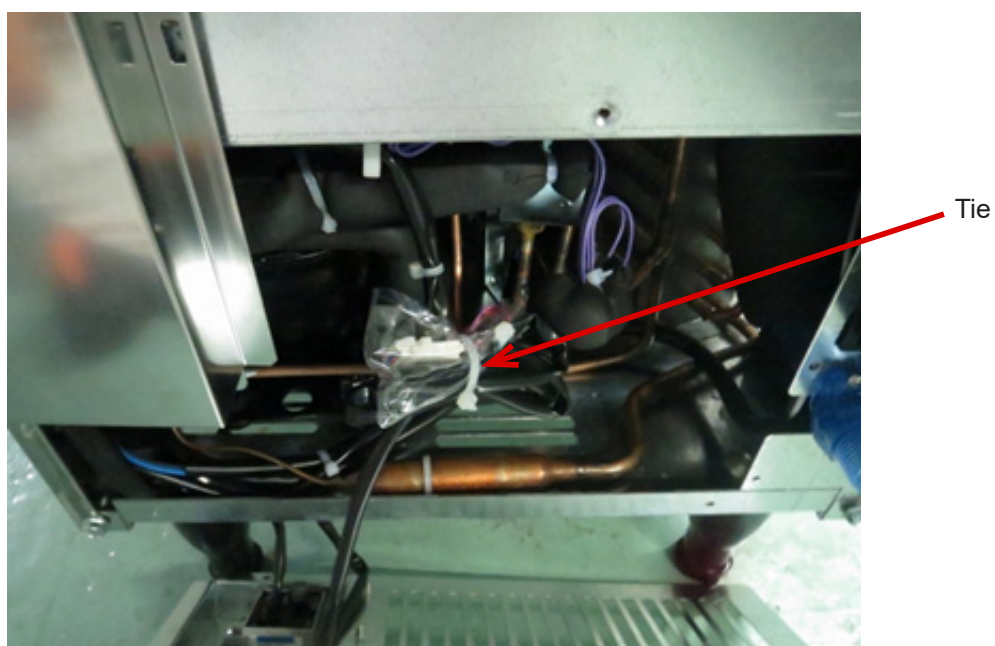

Fig. 32
15) Use the tie (adjust its length) to bind the gas sensor assy wiring as shown in Fig. 32.